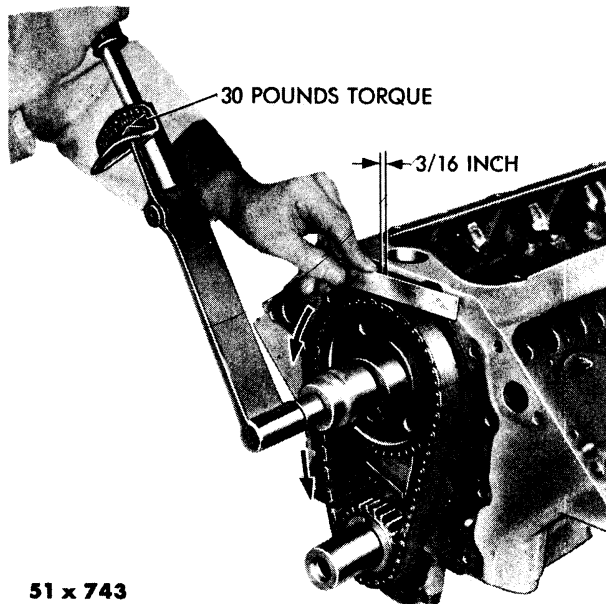

Fig. 29—Measuring Timing Chain Stretch
- (1) Place a $1\frac{1}{4}$ inch socket over the camshaft gear nut and attach a torque wrench to the socket.
- (2) Apply 30 foot-pounds of torque in the direction of crankshaft rotation to take up slack. Holding the scale with the dimensional reading even with the edge, or a chain link, apply 30 foot-pounds of torque in the reverse direction and note the amount of chain rotation (See Fig. 29). If the movement of the chain is greater than $\frac{3}{16}$ inch, as indicated by the stationary scale, install a new timing chain.